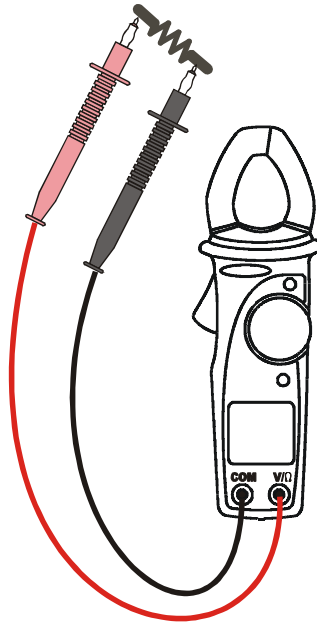

Fig. 8: Use of clamps for continuity measures
2. Insert the test leads into the jack, the red plug into V/Ω jack, and black plug into COM jack, like showed in Fig. 8.